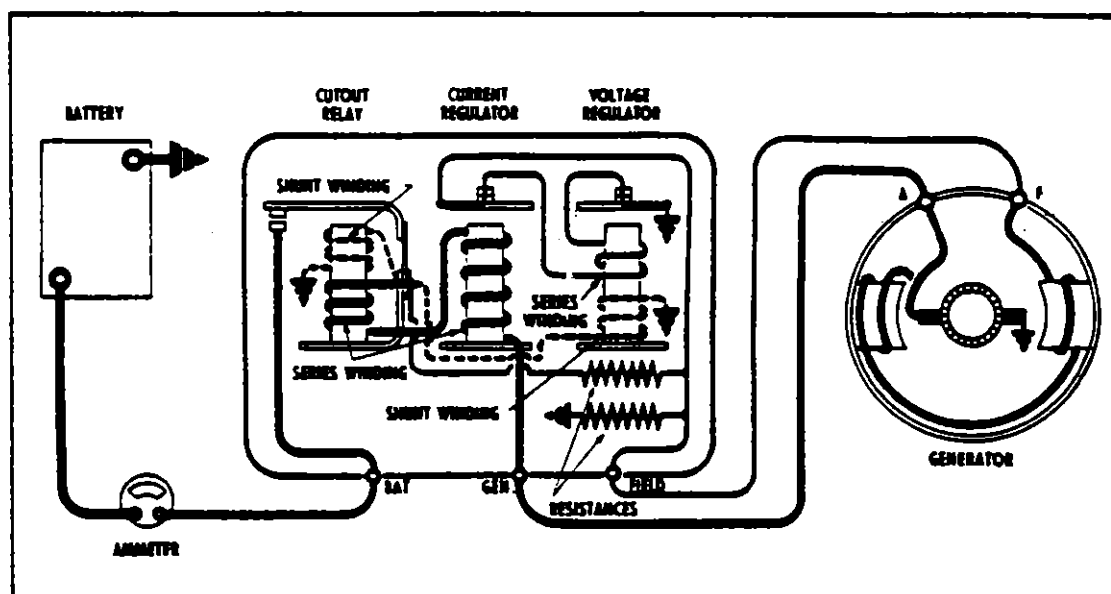
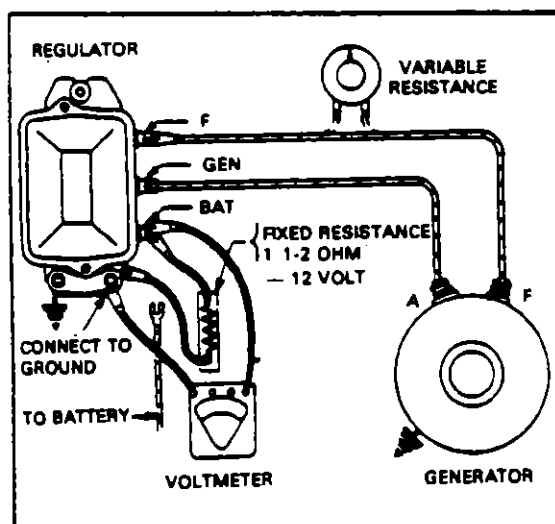

FIGURE 9-3. WIRING CIRCUIT OF THREE UNIT REGULATOR
FIGURE 9-7. CHECKING VOLTAGE SETTING, FIXED RESISTANCE METHOD
9-21. **Regulators.** The regulator shown in Figure 9-3 consists of a cutout relay, a voltage regulator, and a current regulator unit. The cutout relay closes the generator-to-battery circuit when the generator voltage is sufficient to charge the battery, and it opens the circuit when the generator slows down or stops. The voltage regulator unit is a voltage-limiting device that prevents the system voltage from exceeding a specified maximum and thus protects the battery and other voltage-sensitive equipment. The current regulator unit is a current-limiting device that limits the generator output so as not to exceed its rated maximum.
a. The cutout relay (Figure 9-3) has two windings, a series winding of a few turns of heavy wire and a shunt winding of many turns of fine wire (shown in dashed lines). The shunt winding is connected across the generator so that generator voltage is impressed upon it at all times. The series winding is connected in series with the charging circuit so that all generator output passes through it. The relay core and windings are assembled into a frame. A flat steel armature is attached to the frame by a flexible hinge so that it is centered just above the end of the core. The armature contact points are located just above the stationary contact point. When the generator is not operating, the armature contact points are held away from the stationary points by the tension of a flat spring riveted on the side of the armature.
a. The voltage regulator (Figure 9-3) has two windings assembled on a single core, a shunt winding consisting of many turns of fine wire (shown in dashed lines) which is shunted across the generator, and a series winding of a few turns of relatively heavy wire which is connected in series with the generator field circuit when the regulator contact points are closed.
a. The current regulator (Figure 9-3) has a series winding of a few turns of heavy wire which carries all generator output. The winding core is assembled into a frame. A flat steel armature is attached to the frame by a flexible hinge so that it is just above the core. The armature has a contact point which is just below a stationary contact point. When the current regulator is not operating, the tension of a spiral spring holds the armature away from the core so that the points are in contact. In this position the generator field circuit is completed to ground through the current regulator contact points in series with the voltage regulator contact points.
Figure 9-7 after disconnecting the battery lead from the battery terminal of the regulator. The resistance must be $1\frac{1}{2}$ ohms for 12-volt units. It must be capable of carrying 10 amperes without any change of resistance with temperature changes.
9-33. Voltage Setting. There are two ways to check the voltage setting—the fixed resistance method and the variable resistance method (refer to figures 9-7 and 9-8).
Method 2 - Connect a variable resistance into the field circuit, as in Figure 9-7. Turn out all resistance. Operate generator at specified speed. Slowly increase (turn in) resistance until generator voltage is reduced to 4 volts. Turn out all resistance again, and note voltage setting (with voltmeter connected as in Figure 9-7). Regulator cover must be in place.
It is very important that the variable resistance be connected at the "BAT" terminal as shown in Figure 9-7 rather than at the "GEN" terminal, even though these terminals are in the same circuit. An examination of the wiring diagram, Figure 9-3, will show that regulation begins at the point where the shunt windings are connected to the series circuit. Any small resistance added to the circuit between the generator and this point will simply be offset by a rise in generator voltage without affecting the output shown at the ammeter.